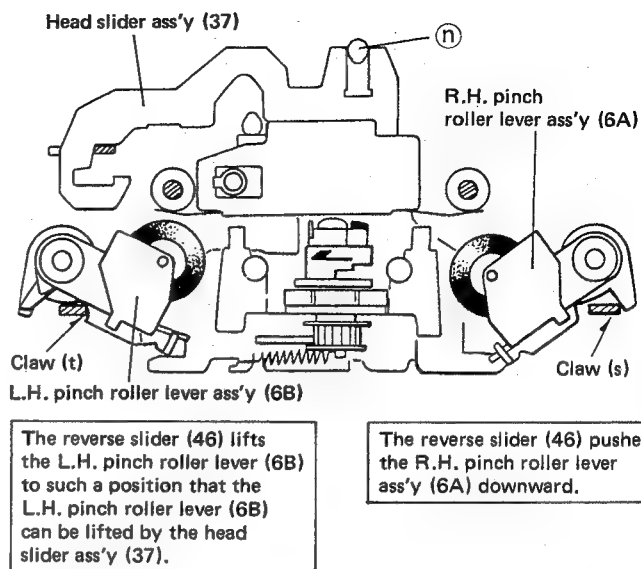
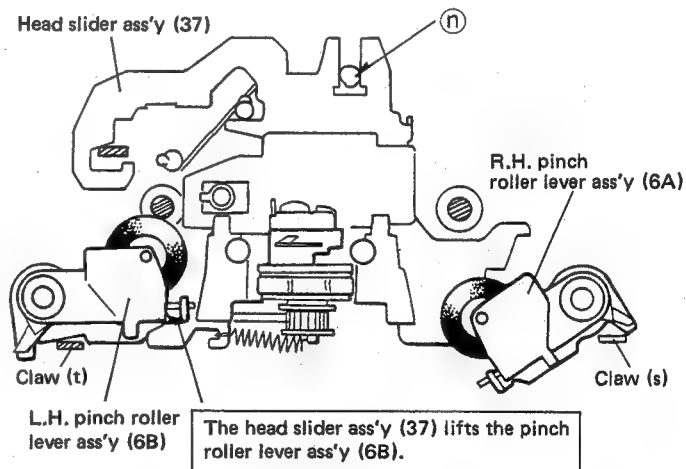

Fig. 21
Fig. 22
- 16) Consequently, the slider ass'y (37) is closely fitted to the boss (n) of the mechanical chassis (801), as shown in Fig. 22. The R.H. pinch roller lever ass'y (6B) is closely fitted to the capstan. The combination head (B) (4) faces in the reverse direction.
When the combination head B (4) has been retracted in reverse mode, the head slider ass'y (37) and R.H. and L.H. pinch roller lever assemblies (6A) and (6B) are positioned as seen in Fig. 21. They are placed as seen in Fig. 22 when the combination head B (4) moves forward.